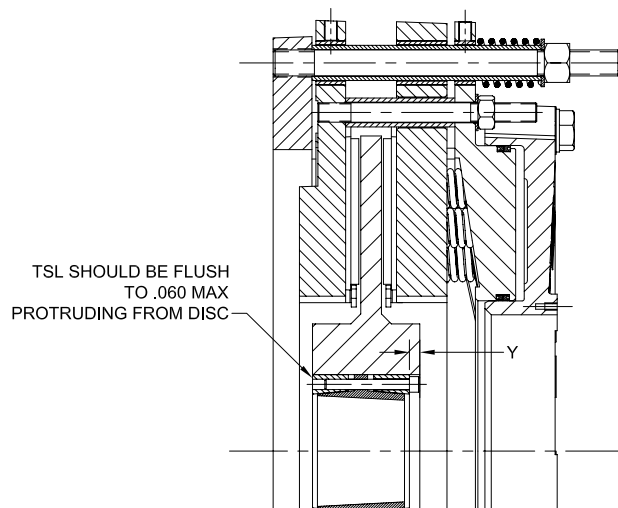

Figure 6
- 2.2.14 Verify the front clamp collar (8A) of the TSL (8) is flush with the taper at the end of the motor shaft and that the TSL is retracted within or flush with the hub portion of the disc (4). See Figure 6.